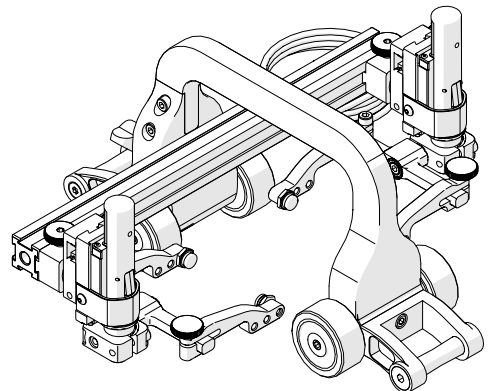

Fig. 76 - Mount probe holders
3. Assemble the appropriate configuration to the frame bar (*Fig. 76*). Install the wedge and probes that will be used (see *Vertical Probe Holder* on page 16).